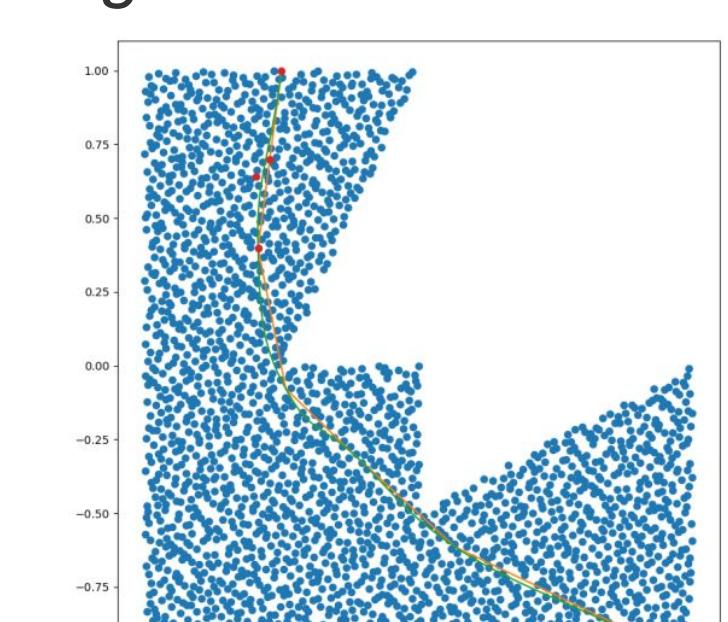

Figure 4: Fast Matching Algorithm Path
3. The bezier curve control points are adjusted to avoid any obstacles (see *Figure 4*)